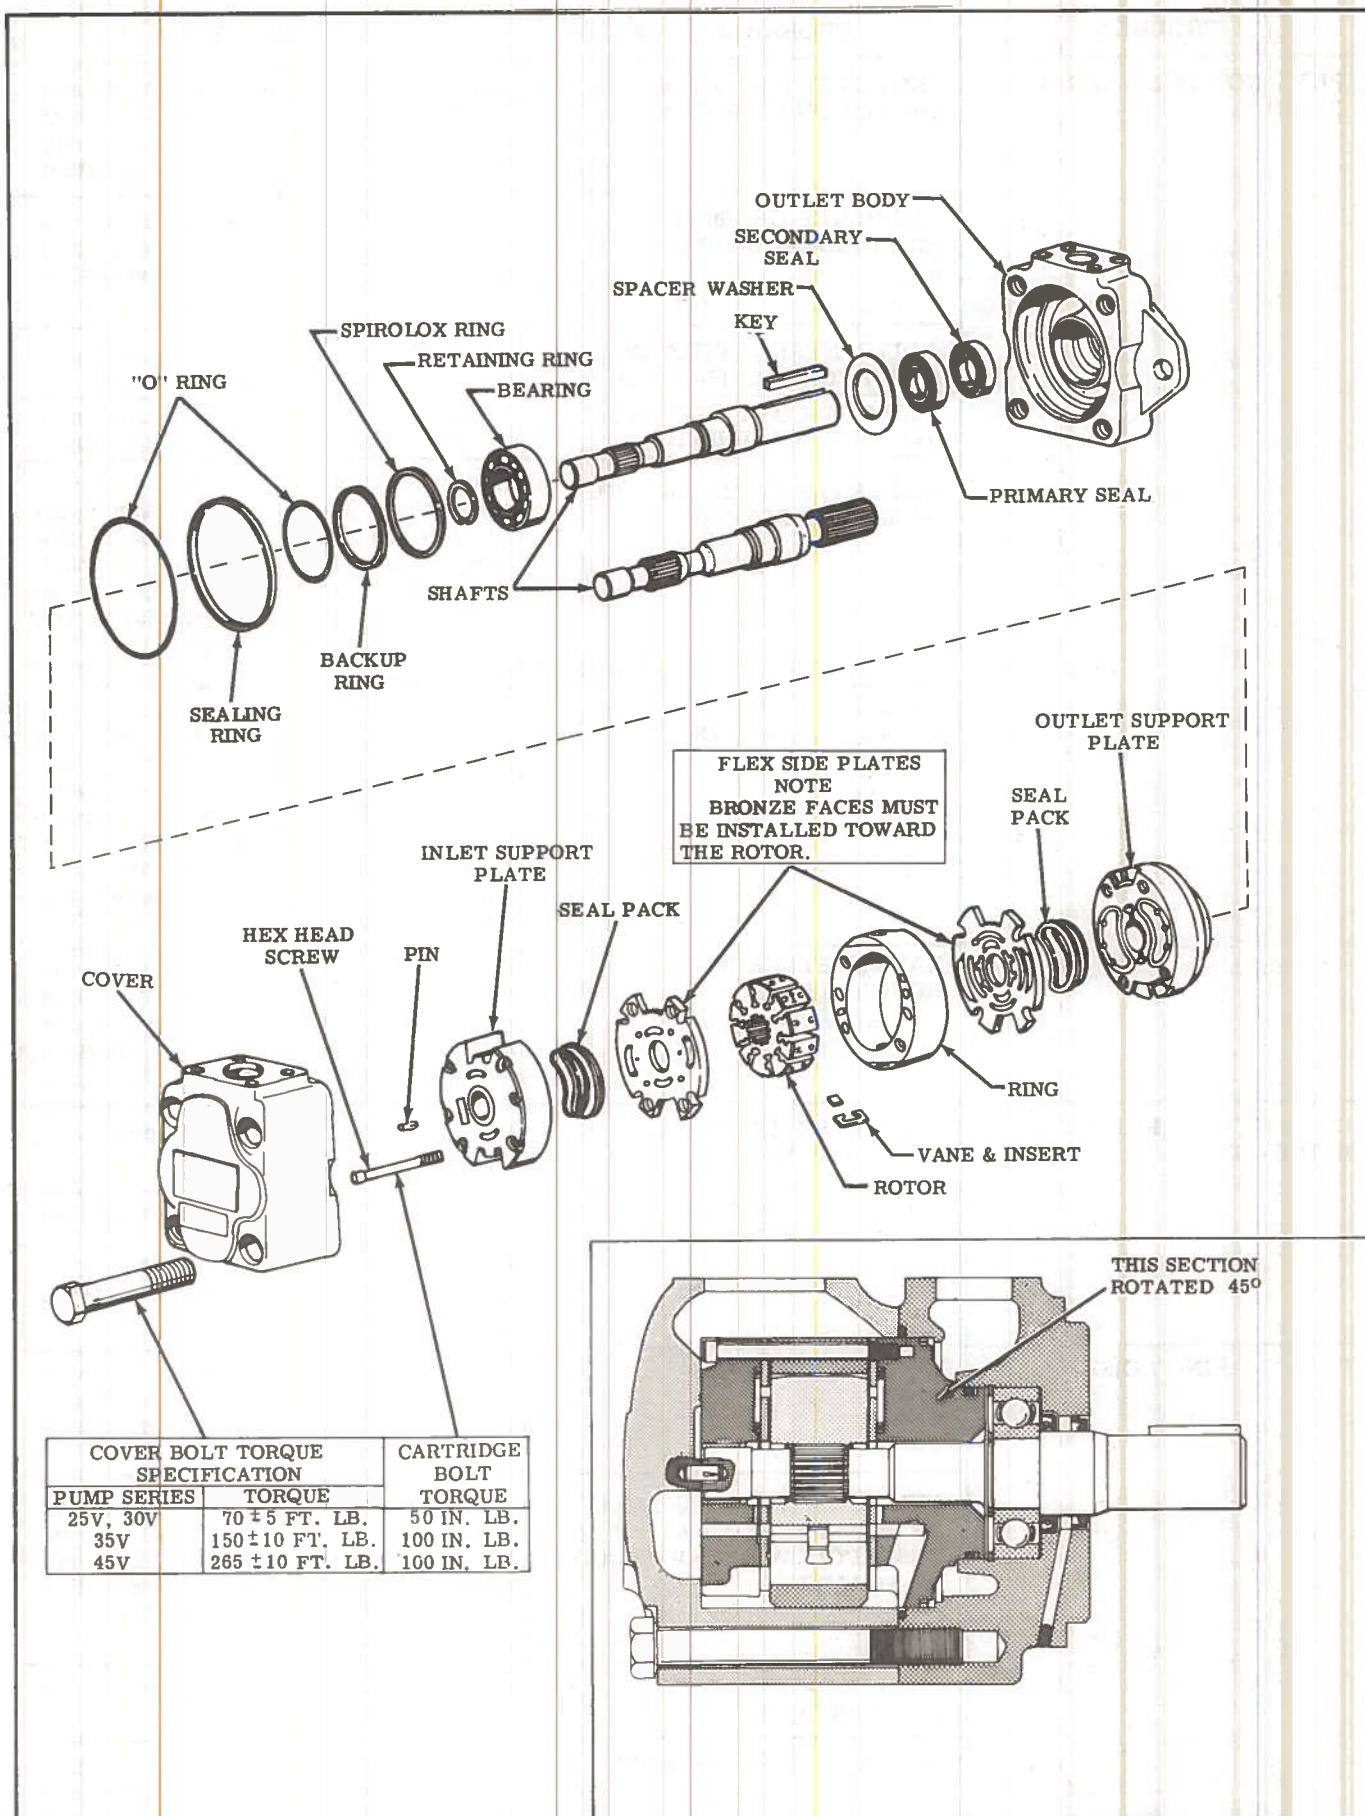
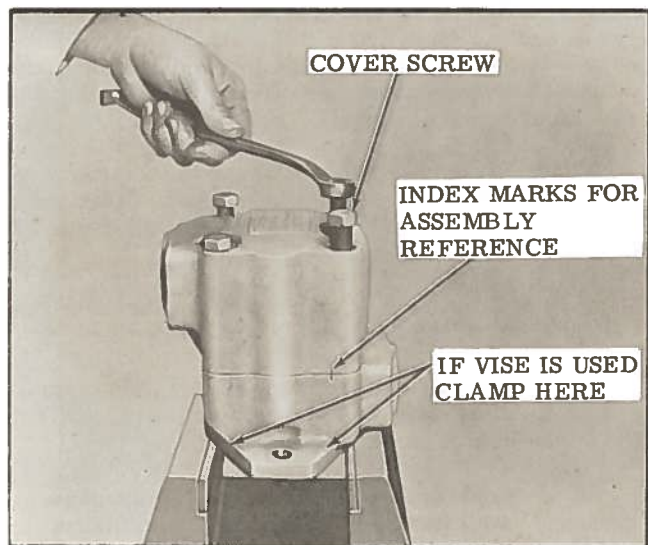

Figure 9 - Exploded and cross-section views of typical pump
Figure 10 - Beginning Disassembly
Plug all removed units and cap all lines to prevent the entry of dirt into the system. During disassembly, pay particular attention to identification of the parts, especially the cartridges, for correct assembly. Figure 9 is an exploded view which shows the proper relationship of parts for disassembly and assembly. Refer to Figure 1 and Figure 9 for the correct assembled relationship of the parts. Various steps in the overhaul process are shown in Figures 10 through 22.
1. Basic Pump- Remove the foot mounting and shaft key, if used. Support the pump on blocks or clamp the body in a vise as shown in Figure 10. If a vise is used, use protective jaws to avoid damage to the body and its machined surfaces. Mark the pump body and cover for correct reassembly. Remove four cover screws and lift the cover off the pump.
i. Install the cover over the cartridge. Tap lightly on the cover with your hand until each part centers. Remove the cover gently so as not to disturb alignment. Torque socket head screws to the torque noted on figure 9, and recheck kit alignment with the cover. Repeat until cartridge kit is aligned. (See figure 22.)
2. Basic Pump - Clamp the body in a vise or place on 2x4 wooden blocks to facilitate assembly. (See figures 10 and 11.)
g. Install the "O" ring and back-up ring on the cartridge, outlet support plate hub. See figure 9 for location.
k. Oil and install the cover to body bolts, (4 required). Torque to the value noted in figure 9.